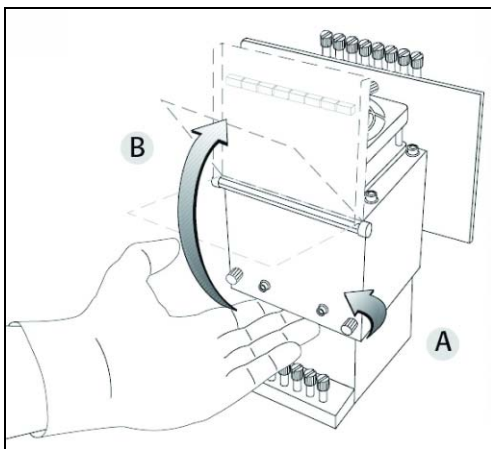

Figure 6-70: Opening the print-head compartment
- Open the print head compartment (see figure 6-70 on page 48).